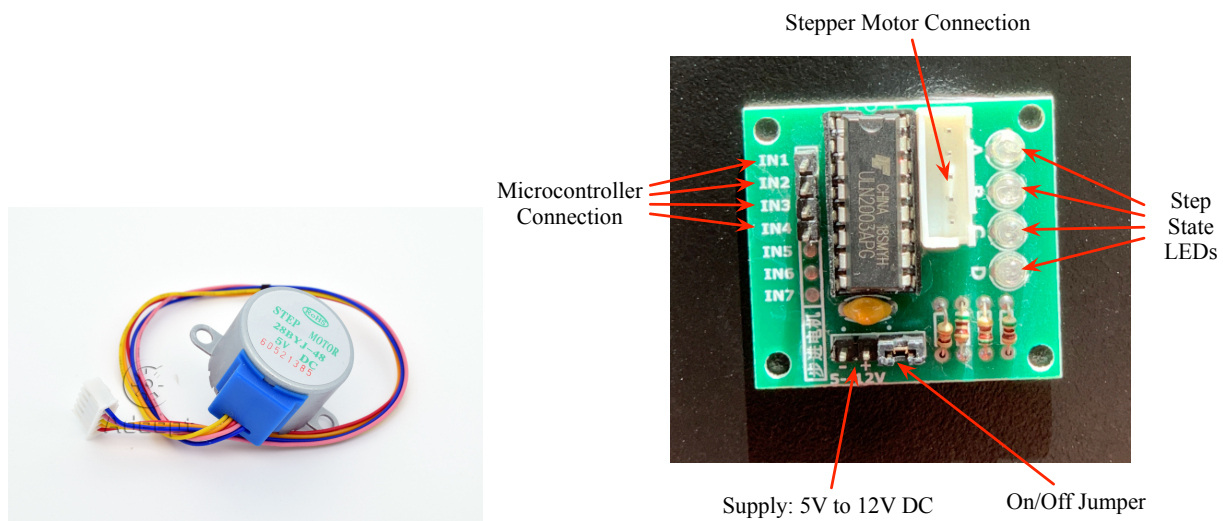

Figure 9.1: Stepper Motor and ULN 2003A.
**Stepper Motor:** A stepper motor is a motor that converts electrical pulse signals into corresponding angular or linear displacements. Unlike DC motors, which rotate continuously when a DC voltage is applied, stepper motors normally rotate in discrete fixed-angle steps. Each time a pulse signal is input, the rotor rotates by an angle or a step forward. The output angular displacement or linear displacement is proportional to the number of pulses input, and the rotation speed is proportional to the pulse frequency. Therefore, stepper motors are also called pulse motors. Stepper motors can be positioned very accurately, because they typically have a positioning error of less than 5% of a step (i.e., typically  $0.1^\circ$ ). The error does not accumulate over multiple steps, so stepper motors can be controlled in an *open-loop form*, without the need for feedback. The motor from your Sensor kit is shown in Figure 9.1.
**ULN2003 Driver Module:** The Raspberry Pi's GPIO cannot directly drive a stepper motor due to the weak current. Therefore, a driver circuit is necessary to control the stepper motor. This experiment uses the ULN2003 driver module. There are four LEDs on the module to indicate stepping state. The white socket in the middle is for connecting a stepper motor. IN1, IN2, IN3, IN4 are used to connect with the microcontroller. The power supply [5V to 12V DC] and an On/Off jumper also resides on the board as shown in Figure 9.1.